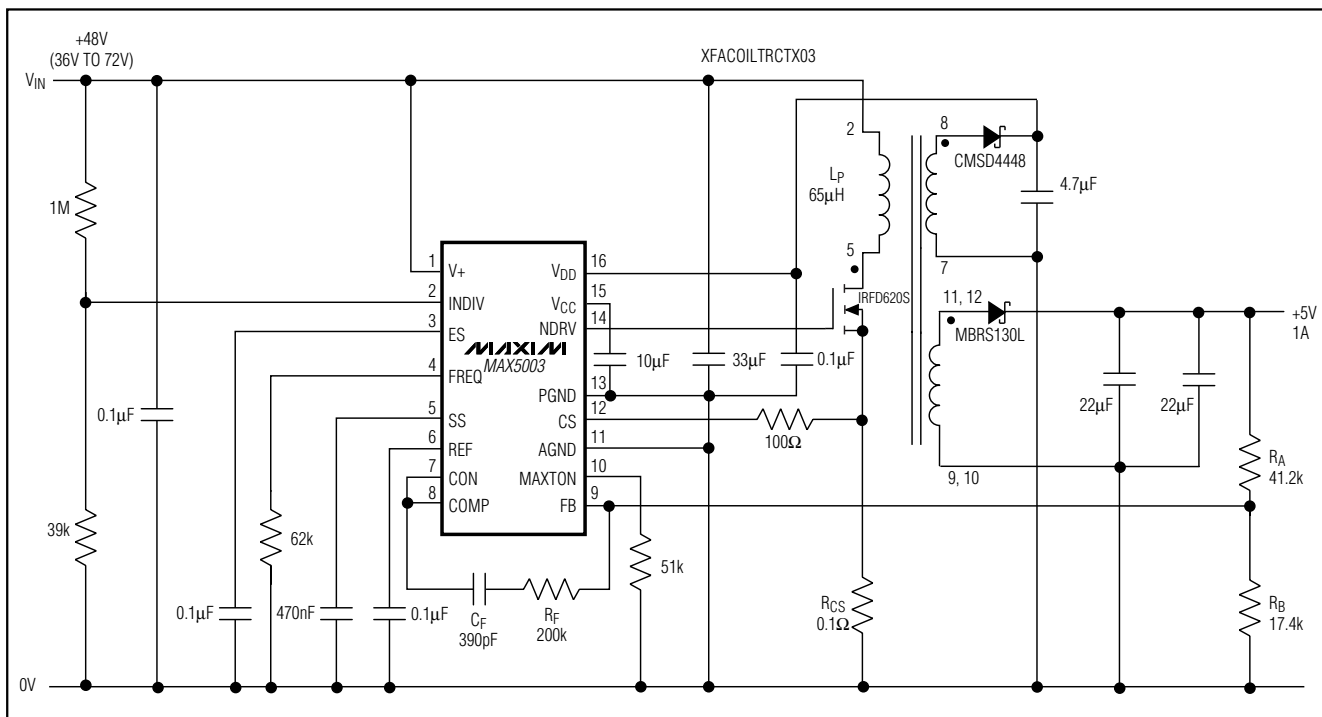

Figure 2. Application Example 1: Nonisolated +48V to +5V Converter
Choose R2 (Figure 2) between 25kΩ to 500kΩ and calculate R1 to satisfy the following equation:
The current-sense (CS) comparator and its associated logic limit the current through the power switch. Current is sensed at CS as a voltage across a sense resistor between the external MOSFET source and PGND. Connect CS to the external MOSFET source through a 100Ω resistor or RC lowpass filter (Figures 2 and 3). See *CS Resistor* in the *Component Selection* section.
The circuit shown in Figure 2 is essentially an energy pump. It stores energy in the magnetic core and the air gap of the transformer while the power switch is on, and delivers it to the load during the off phase. It can operate in two modes: continuous and discontinuous. In discontinuous mode, all the energy is given to the load before the next cycle begins; in continuous mode, some energy is continuously stored in the core.
Given the above considerations,  $R_A$ ,  $R_B$ ,  $R_F$ , and  $C_F$  can be chosen (Figure 2). The sum of  $R_A$  and  $R_B$  is chosen for low current drain. In the example,  $R_A$  plus  $R_B$  is 58k $\Omega$  and draws 80 $\mu$ A. The following ratio sets the output voltage: